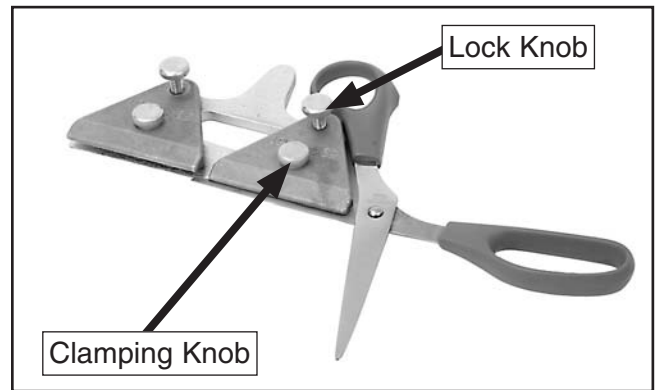

Figure 11. Scissors clamping.
5. Insert one blade of the scissors into the clamp, as shown in **Figure 11**, and tighten the clamping knob.